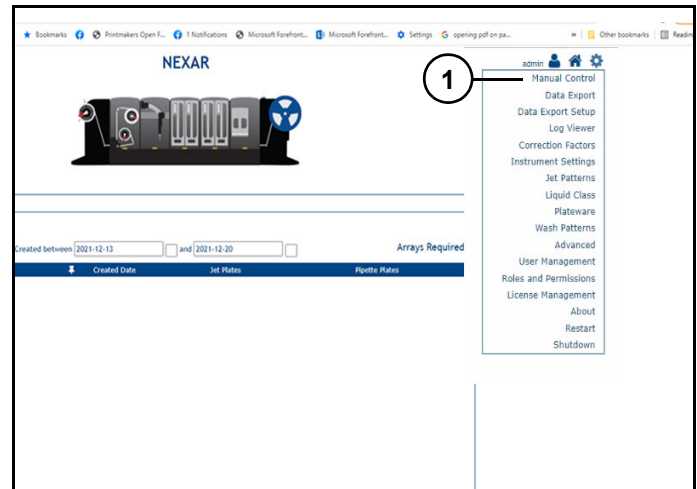

Figure 8
Manual Control (1) (Figure 8): Accesses manual controls.